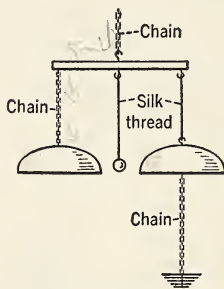

FIG. 591. The bells operate by static electricity.
14. Support the apparatus shown in Fig. 591 and connect it with one of the terminals of a static machine. Silk threads and brass chains are used to support the hammer and the two bells. Why do the bells ring alter-